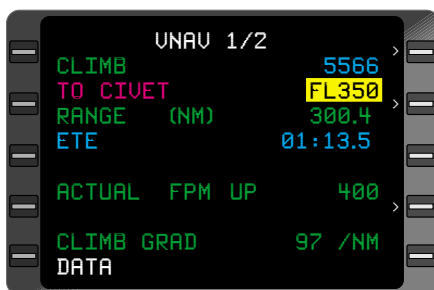

Figure 3-129
1. **VNAV** Key - DEPRESS to display **VNAV 1/2** Page. The altitude constraint may be changed on this page if the current TO waypoint has a constraint programmed. Type the new altitude in the altitude field adjacent to the TO WPT. All parameters associated with the former constraint will remain unchanged, i.e., FPA, A, B, G, or OFFSET. (Figure 3-129)